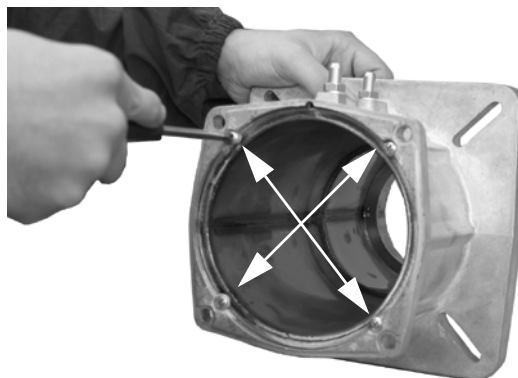

Fig. 5
- 3 Remove the 4 screws which hold the blast tube to the flanged piece (Fig. 5).